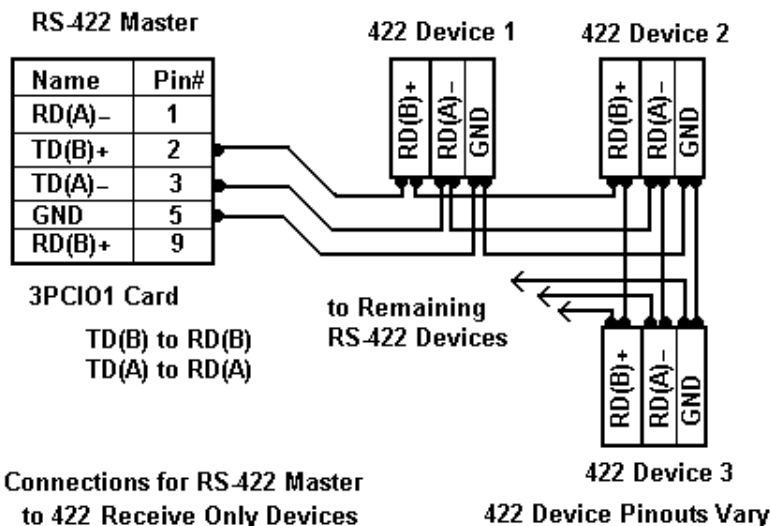

Figure 6.3
In a multi-slave RS-422 connection, TD(B) and TD(A) connect to RD(B) and RD(A) on all the slaves. If the slaves have Transmit connections, only one device can be connected back to the master. See Fig. 6.3 on next page.